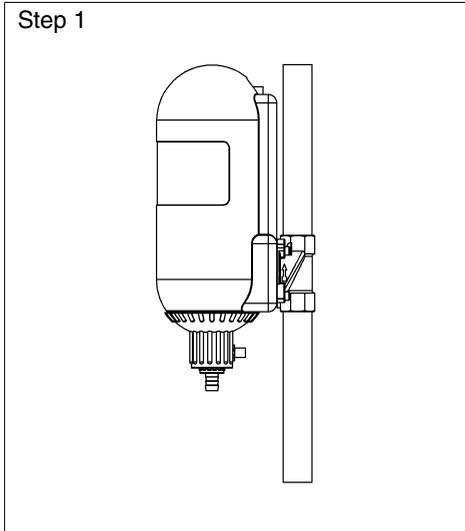

Fig. 4: Operation position
- When the bucket is half full the backwashing process must be ended. Otherwise the bucket can overflow. Therefore the bucket must be adequately dimensioned (see fig. 4).